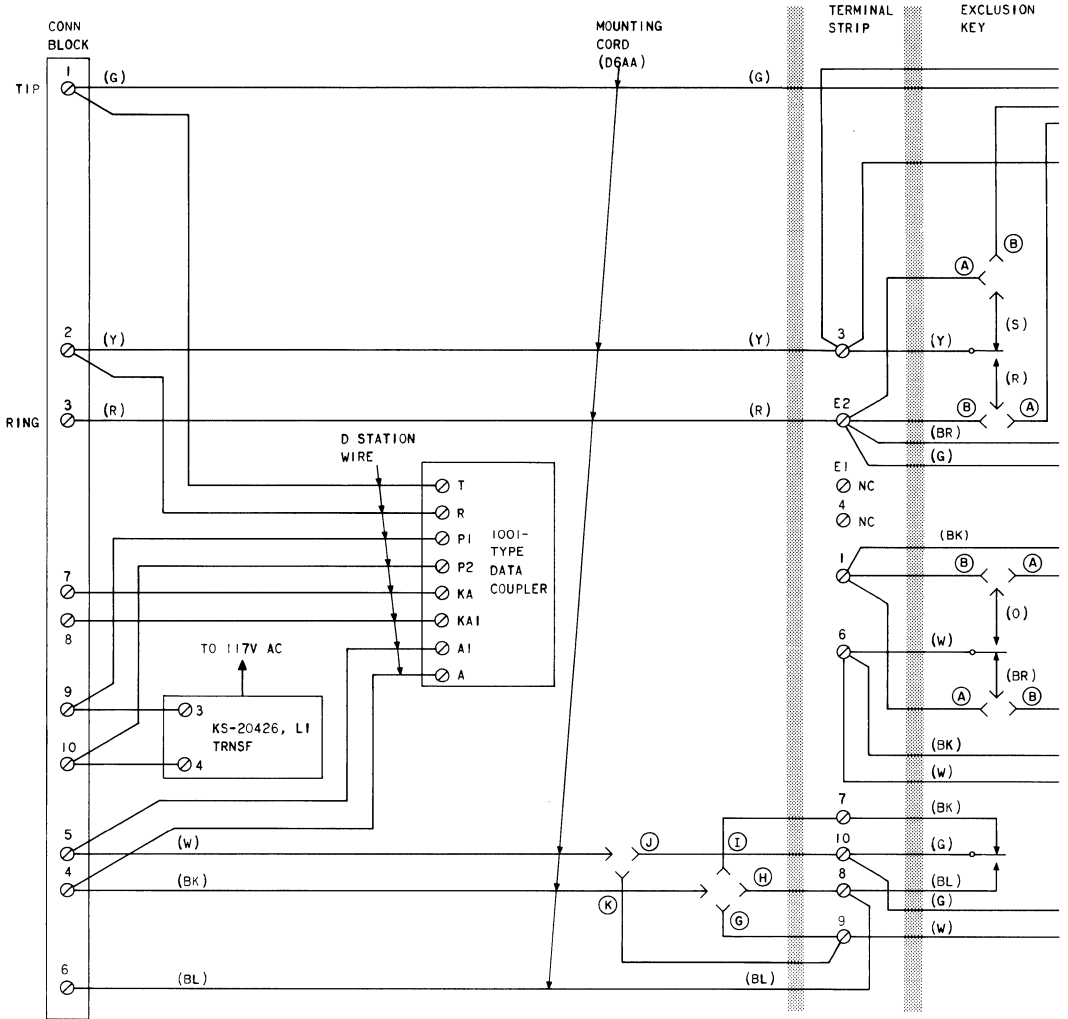

Fig. 8—503C Rotary Dial Telephone Set Connections With 1001F Data Coupler (Sheet 1 of 2)
3.02 Options specified in 3.01 apply to the standard [502A/B or 2502B (Section 502-501-102 or 502-503-102)] as well as the multifunction telephone (MFT) [503C or 2503C (Section 502-501-120 or 502-503-120)] when used with the 1001F data coupler. Connections for these options using the 502- and 2502-types are shown in Fig. 7. Additional options are available using the MFT, and are discussed in 3.03 and shown in Fig. 8 and 9. Wall-mounted telephones are not recommended and should not be used.